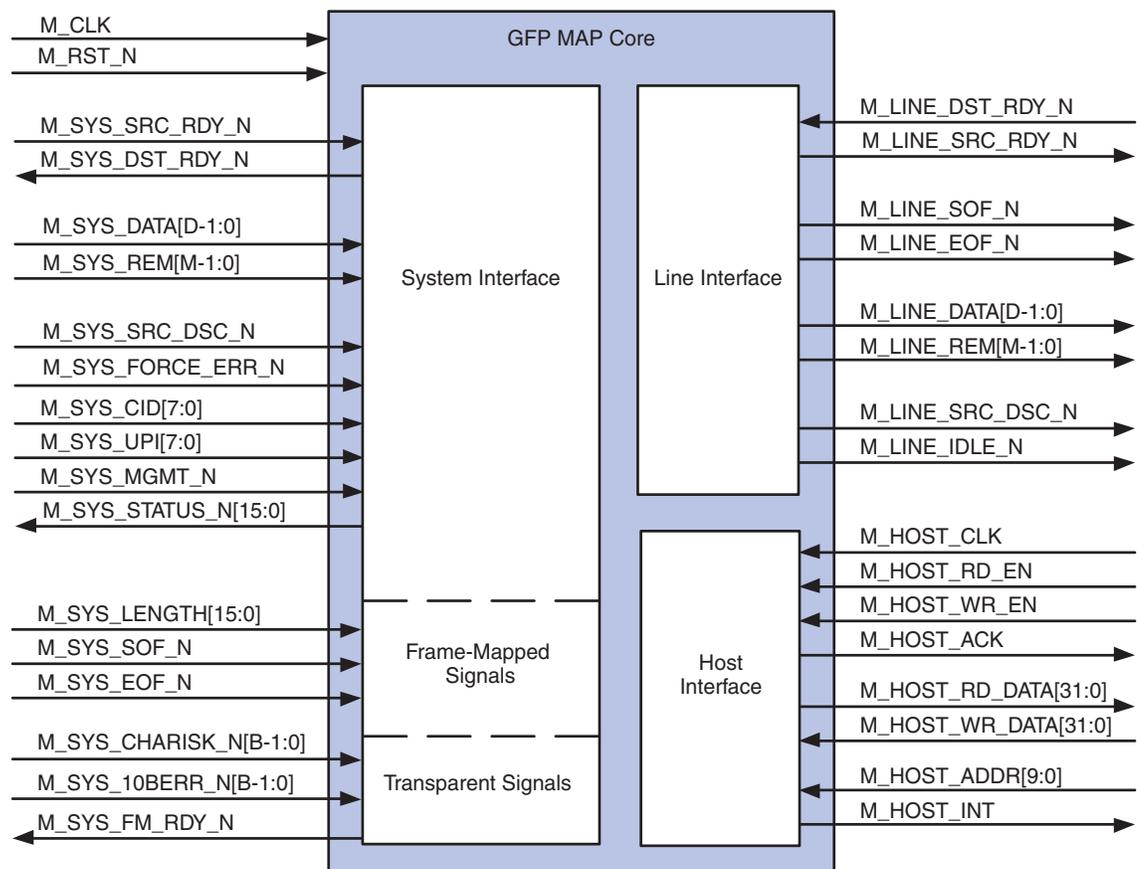

Figure 4: MAP Core Interfaces
Figure 4 displays the MAP core interfaces. All signals are defined in their respective sections following the illustration.
**Table 3** describes the MAP system interface signals (M\_SYS). The MAP system interface connects to the client side of the system and implements the Xilinx LocalLink standard, providing a simple, flexible way to receive frames. The system interface consists of a unidirectional data bus with control signals that allow the user application to stall or discontinue data. The system interface signals are divided into three categories: signals common to both frame-mapped and transparent mode, signals specific to frame-mapped mode, and signals specific to transparent mode, as shown in **Figure 4**.